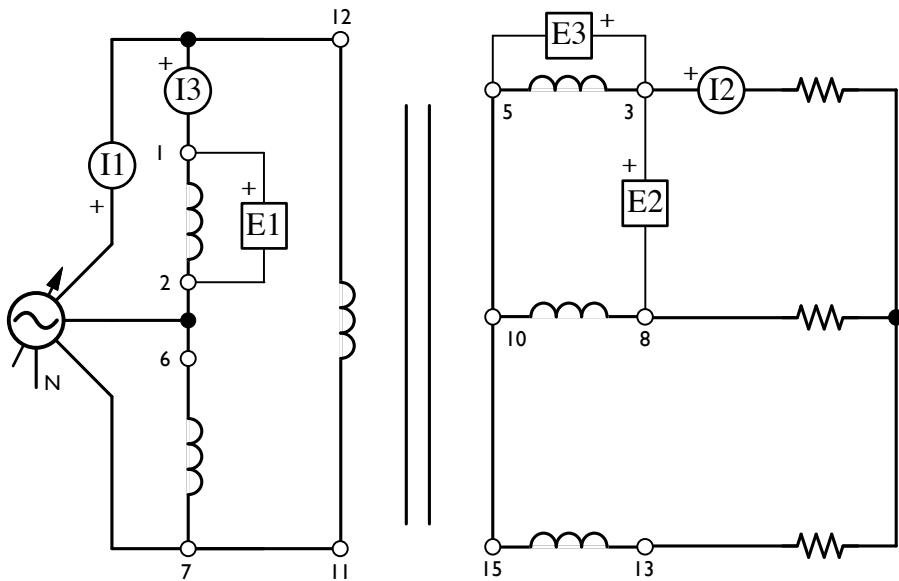

Figure 2.6: Three-Phase Transformer Connected in Delta-Wye. Note: construct circuit without meters.
- 37. With the power off, connect the Three-phase Transformer module in the Δ - Y configuration shown in Figure 2.6 however do NOT include the voltmeters or ammeters until the instructor has checked your circuit. Set the load resistors to **300 Ω** each. Since all load resistors have the same resistance the load is a *three-phase balanced load*. Under these conditions the rms voltage and current values are the same in all three phases.